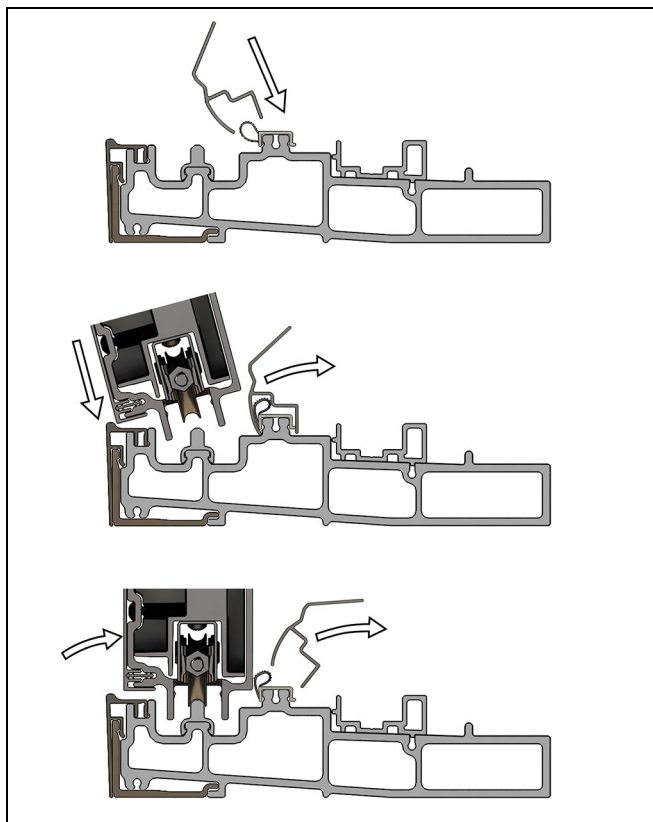
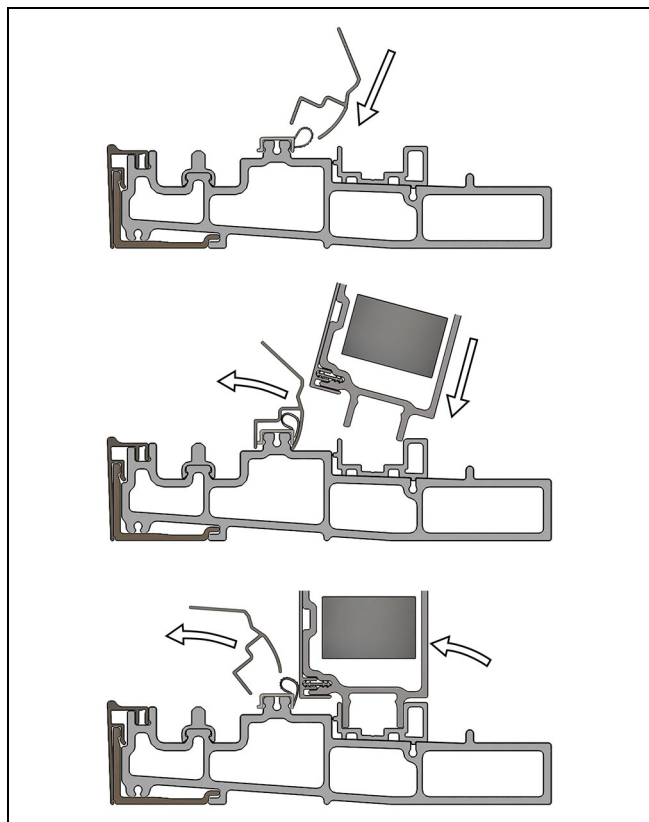

Figure 65 Interior panels
Figure 66 Exterior panels
1. Before installing any panel, install the sill weatherstrip jig over the sill weatherstrip. Fit the leading edge of the jig under the weatherstrip bulb, then rotate so the back edge snaps onto the opposite leg of the weatherstrip. Note the orientation of the jig in relation to the sill weatherstrip for interior and exterior panels in Figure 66 and Figure 65.